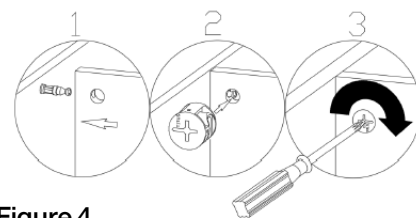

Figure 4
4. Assemble the parts from Step 2 together (Figure 2) using the procedure from (Figure 4) by installing locking lugs (e) into the designated holes, and then lock them.